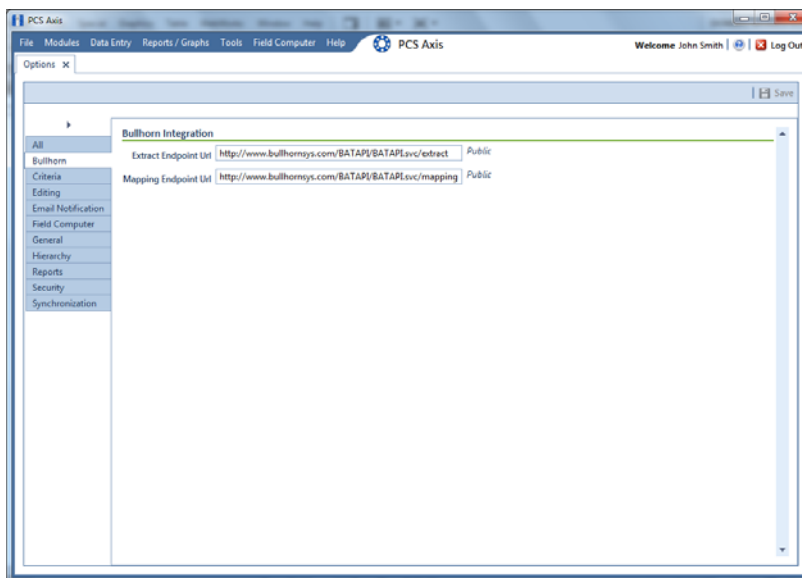

Figure 2-6. Bullhorn Options
- 1 Click **Tools** > **Options** > **Bullhorn** tab to open the *Bullhorn* options page (Figure 2-6, page 26).